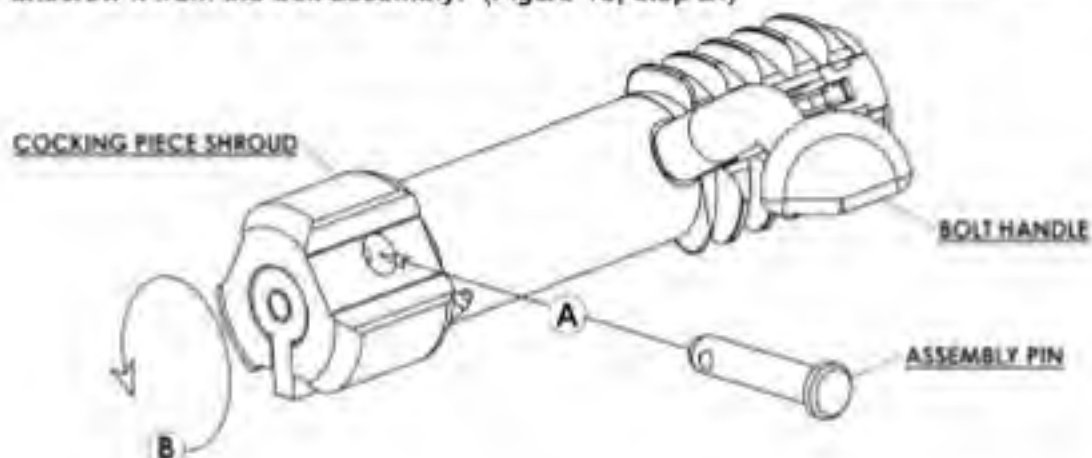

Figure 10.
1. Insert an assembly pin into the hole in the cocking piece shroud. The assembly pin may require lubrication and rotating as the pin is inserted. (Figure 10, step A.) This locks together the cocking piece shroud and the firing pin assembly.
2. Grasp the bolt handle. Turn the cocking piece shroud counter-clockwise to unscrew it from the bolt assembly. (Figure 10, step B.)